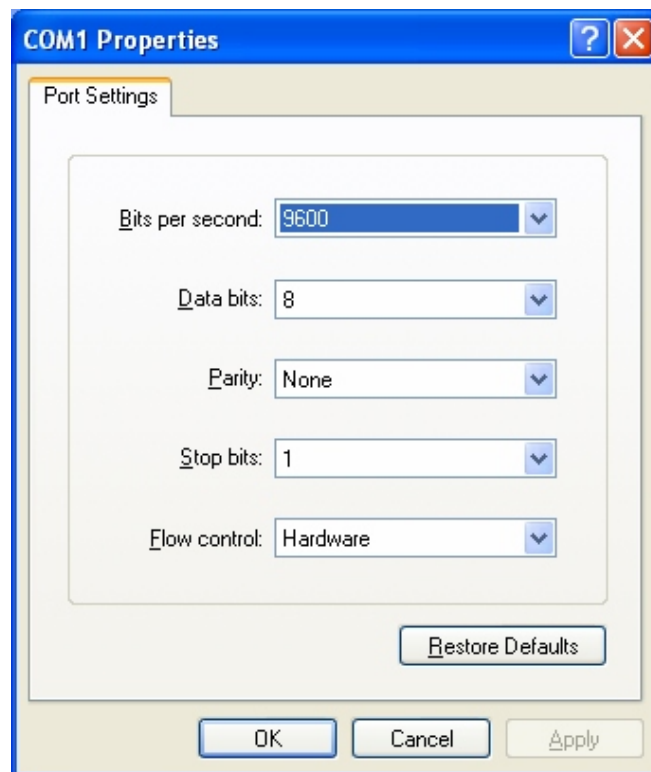

Figure 1: HyperTerminal port settings.
- 6) Make a new connection and set the corresponding COM port (e.g. COM1), baud rate 9600, 8 data bits, 1 stop bit, hardware handshaking (Figure 1)